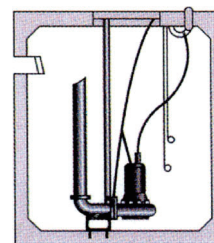

Fig.5
6. After checking a successful installation of pump onto the discharge connector by its own weight, hold the attached chain to the upper part in pit as shown on Fig.5, which is for maintenance whenever necessary.